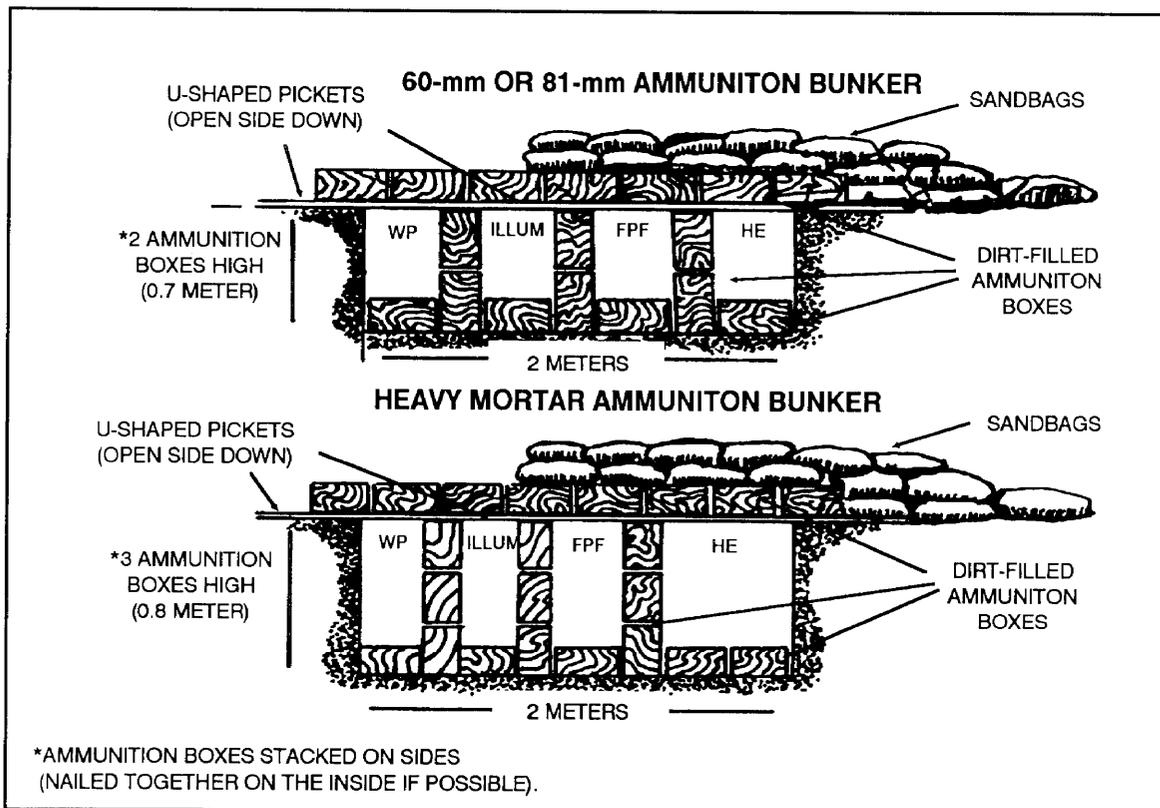

Figure 7-9. Ammunition storage area (front view).
c. **STAGE III.** As position improvement continues, construct ammunition bunkers. A bunker should be two M16-rifle lengths (2 meters) wide, one ammunition box (length) deep, and two ammunition boxes (stacked on their sides) high (three for a 4.2-inch mortar position). The bunker is divided into four sections separated by the ammunition boxes stacked on their sides (Figure 7-9, see page 7-10). Ammunition boxes form the floor on which the ammunition is stacked. U-shaped pickets or other suitable support material are placed across the stacked boxes, providing a base on which to place dirt-filled ammunition boxes to enclose the top of the bunker. All boxes are filled with dirt to increase stability and add protection. A canvas tarpaulin or plastic sheet available from the ammunition packing material should be placed on the top of the ammunition boxes, then covered with dirt and sandbags to form at least an 18-inch layer over the bunker. The tarpaulin should also drape over the opening to the bunker to protect the ammunition from dirt and moisture.